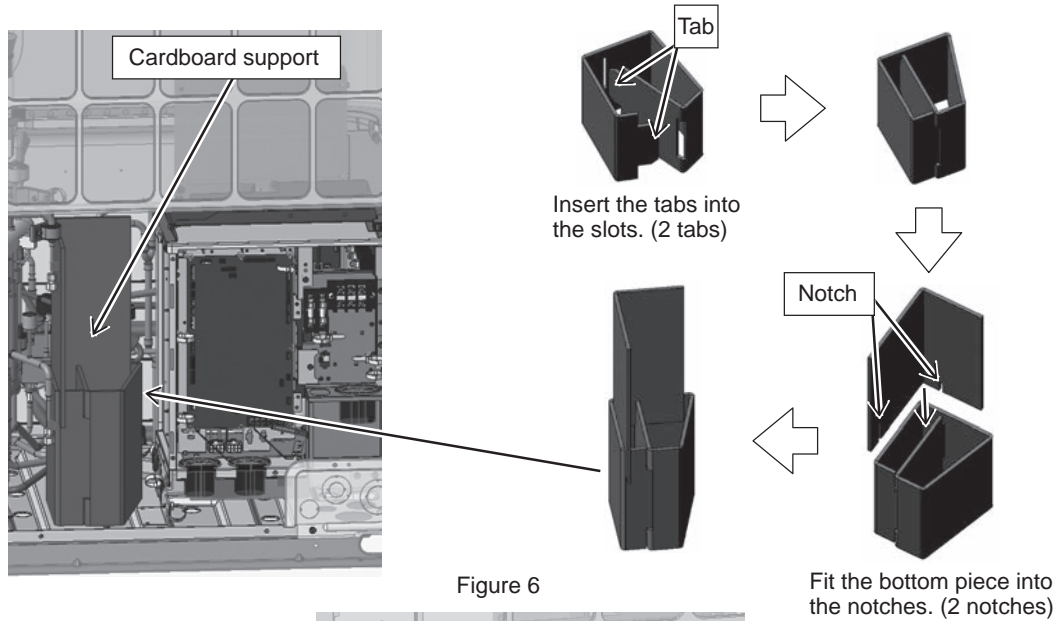

Figure 6
- (7) Before placing the transformer box, set the cardboard support (\*applicable to the XL and EXL modules only). (Figure 6)